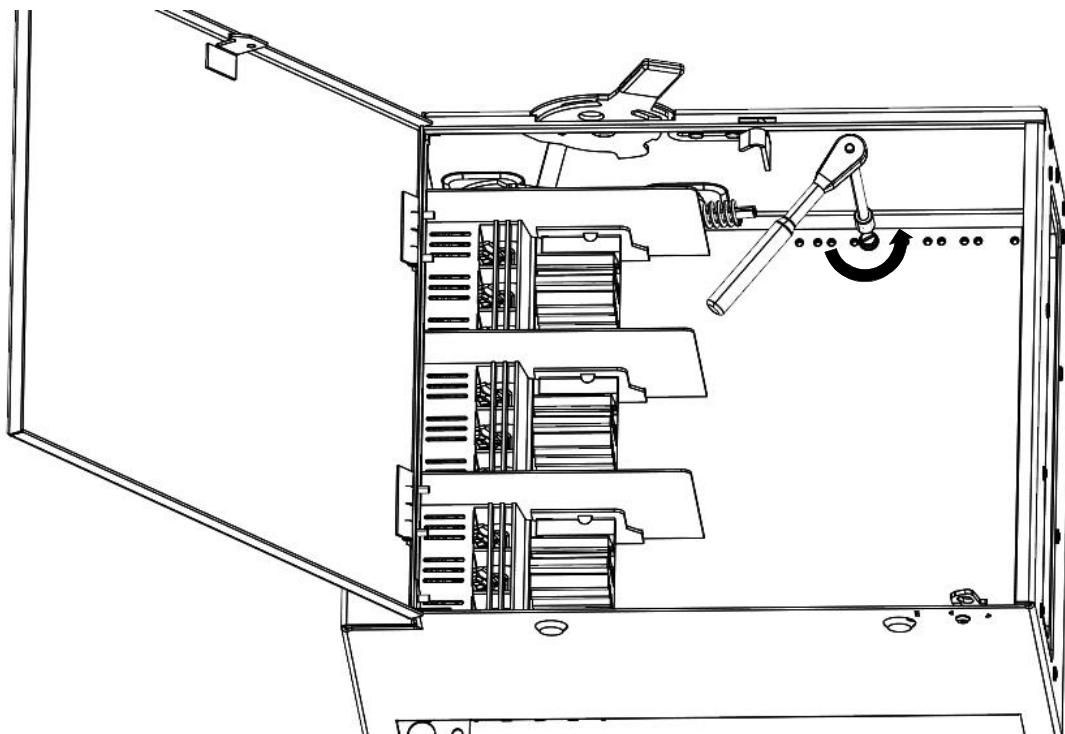

Figure 3
3. Remove mounting screw from bottom barrier and set aside, as shown in Fig 3. Do not discard.